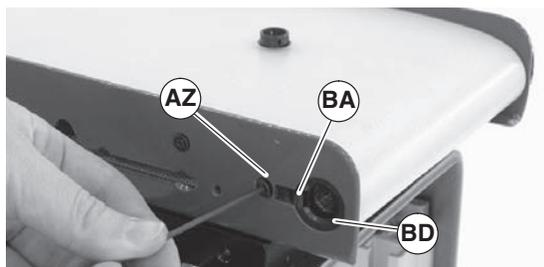

Figure 45
- Insert retaining sleeve clip (Figure 45, item BA) into slot and tighten with screw (AZ).